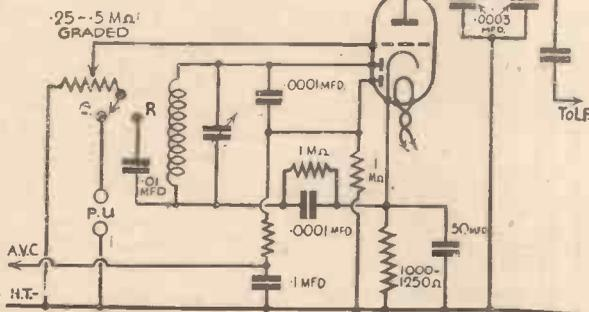

Fig. 1.—This circuit shows the connections for a double-diode triode used as second detector, A.V.C., and first L.F. amplifier.
There are four types of valve in the diode-L.F. amplifier class, and it is not always easy for the set builder to decide as to which is most suitable for his requirements. The types referred to are the double-diode-triode, the double-diode-variable-mu pentode, the double-diode output pentode, and the triple-diode triode. The first is best known, and is available in all makes for both A.C. and battery operation. Like the other valves in the category we are considering, it consists of two valves mounted together on one base and in a single glass envelope. One of the diodes may be used for detection, or second detection, the other being used to provide a variable negative voltage, as required for A.V.C. A typical valve of this kind is the Cossor D.D.T., which is shown in the circuit Fig. 1; the pin connections are indicated in Fig. 2, and technical details are given in a panel on this page. With regard to the latter, it will be seen that details are only given in respect of the L.F. portion of the valve, since the diode does not have grid-volts anode-current characteristic curves, as explained in a previous section of this series.
T.D.D.4 (both double-diode triodes), and the Cossor D.D.T. mentioned above. It can also be used in a circuit similar to that reproduced in Fig. 1, with an additional H.T. circuit for the auxiliary grid of the pentode section.